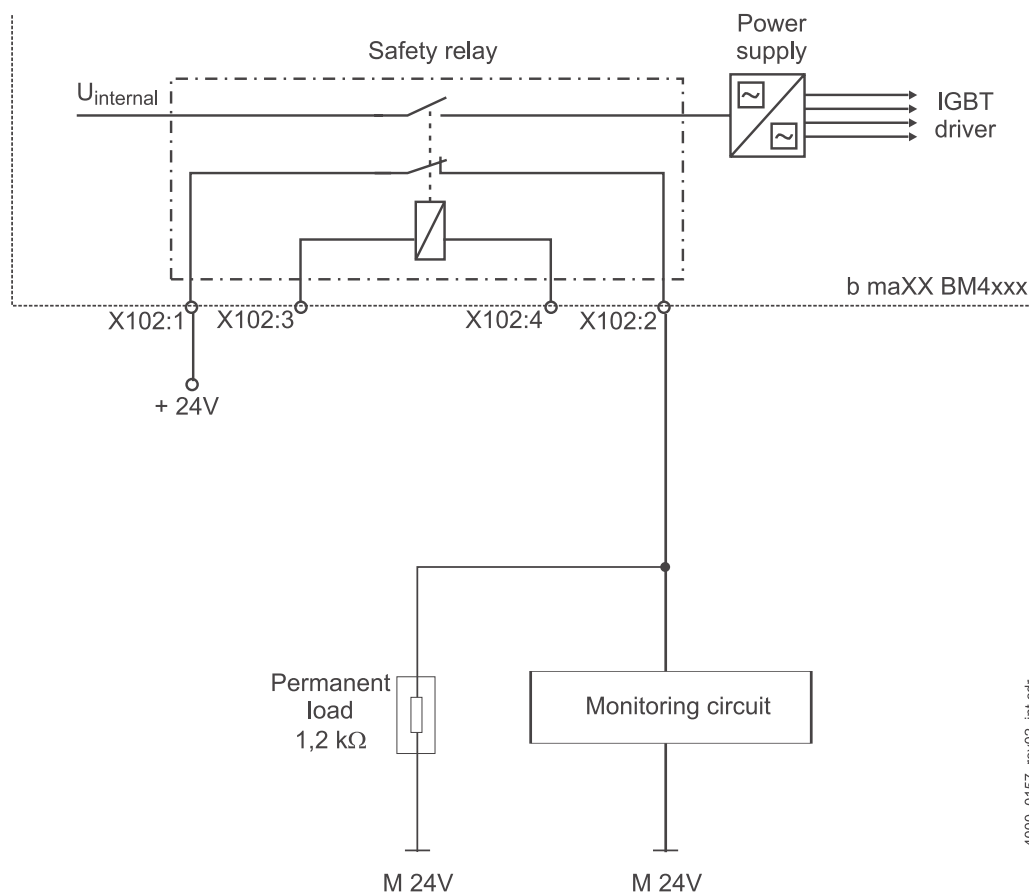

Figure 83: Installation of the feedback contact with permanent load
2) A current on contact of at least 20 mA is recommended. If the load is below 20 mA the current on contact can be increased (see ►Figure 83◄ on page 236).